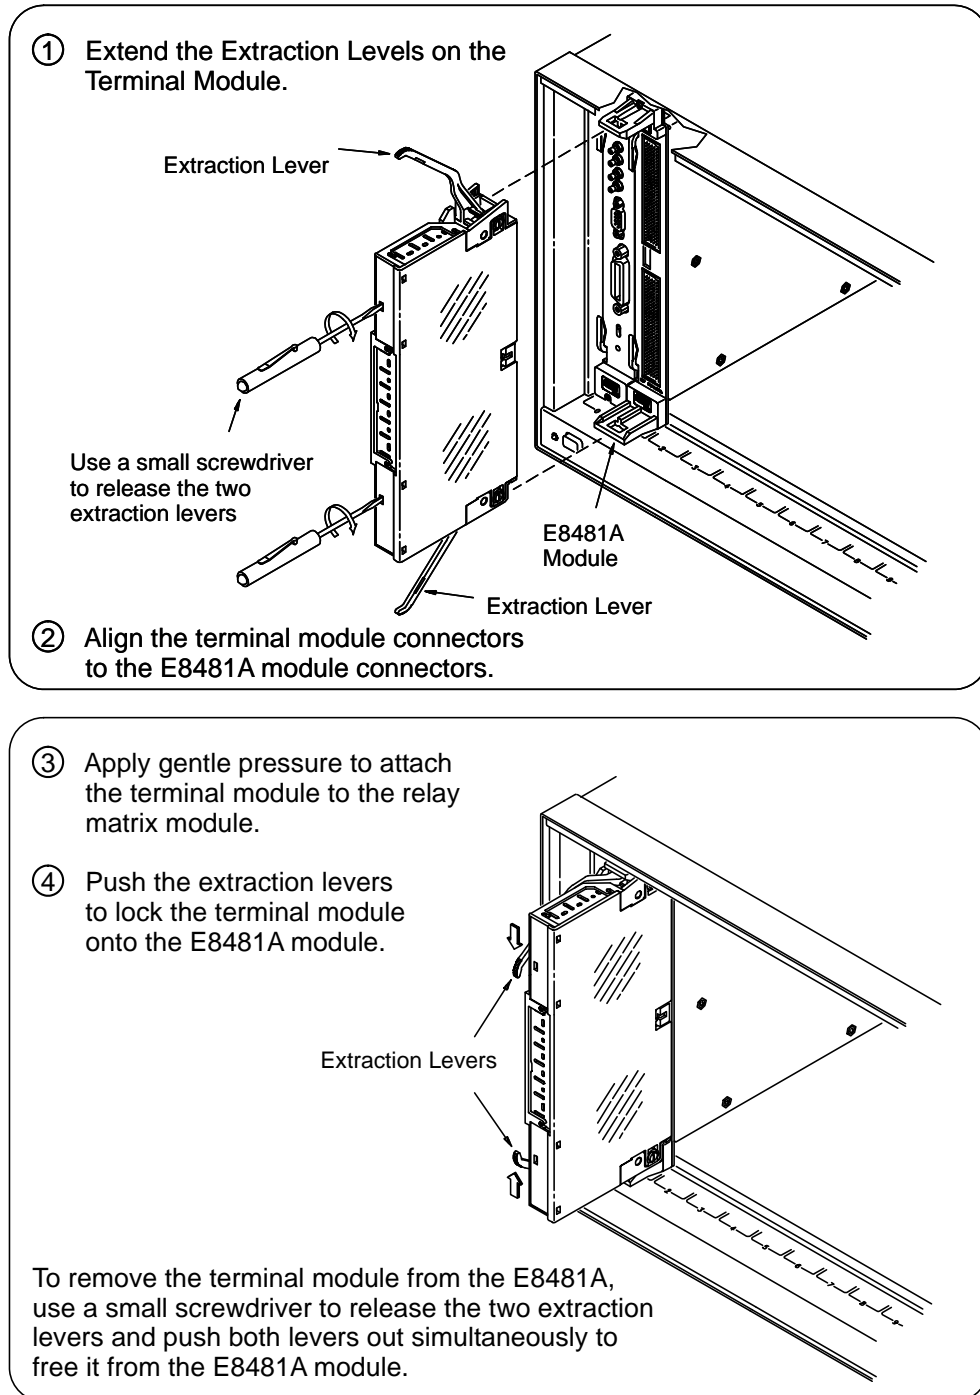

Figure 2-7. Attach a Terminal Module to the E8481 Matrix Module
7. Attach the Terminal Module to the Matrix (see Figure 2-7 for more information)
Figure 2-7 shows how to attach a terminal module to the E8481A Relay Matrix Switch module.